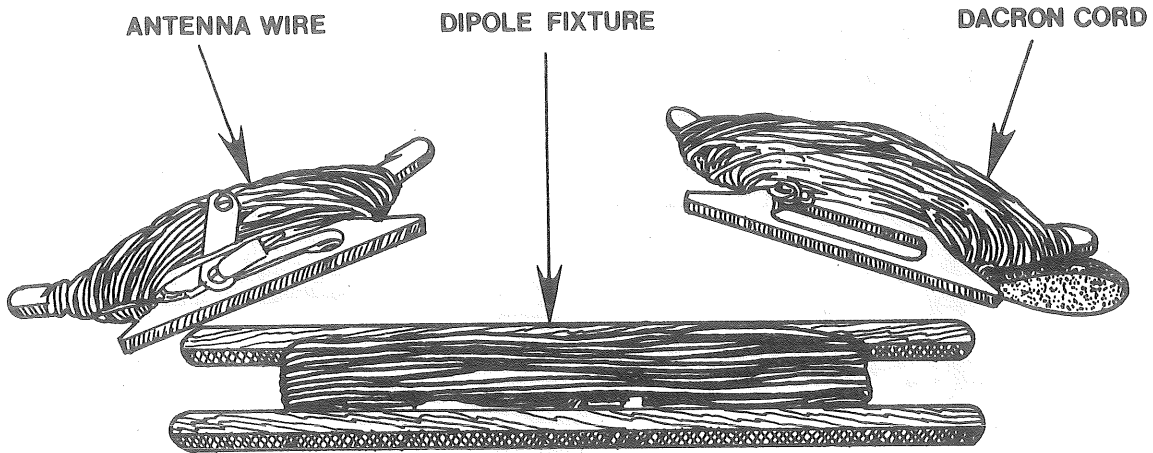

Figure 3. Antenna Kit MK-911A/PRC-74.
a. Unwind one of the dipole antenna reels shown in figure 3 until the mark on the antenna wire matches the scale on the antenna reel as shown in figure 4.